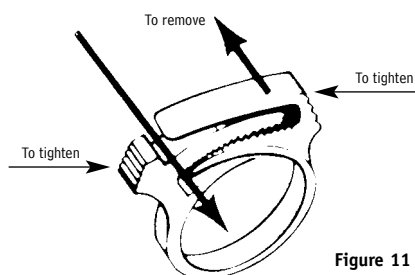

Figure 11
1. Remove nylon clamp from plastic anchor plate on hood (see Figure 11). Do not remove foam from inside the 20BT breathing tube, used with CC20 Series Airline Respirators. The foam helps reduce the noise level of incoming air.